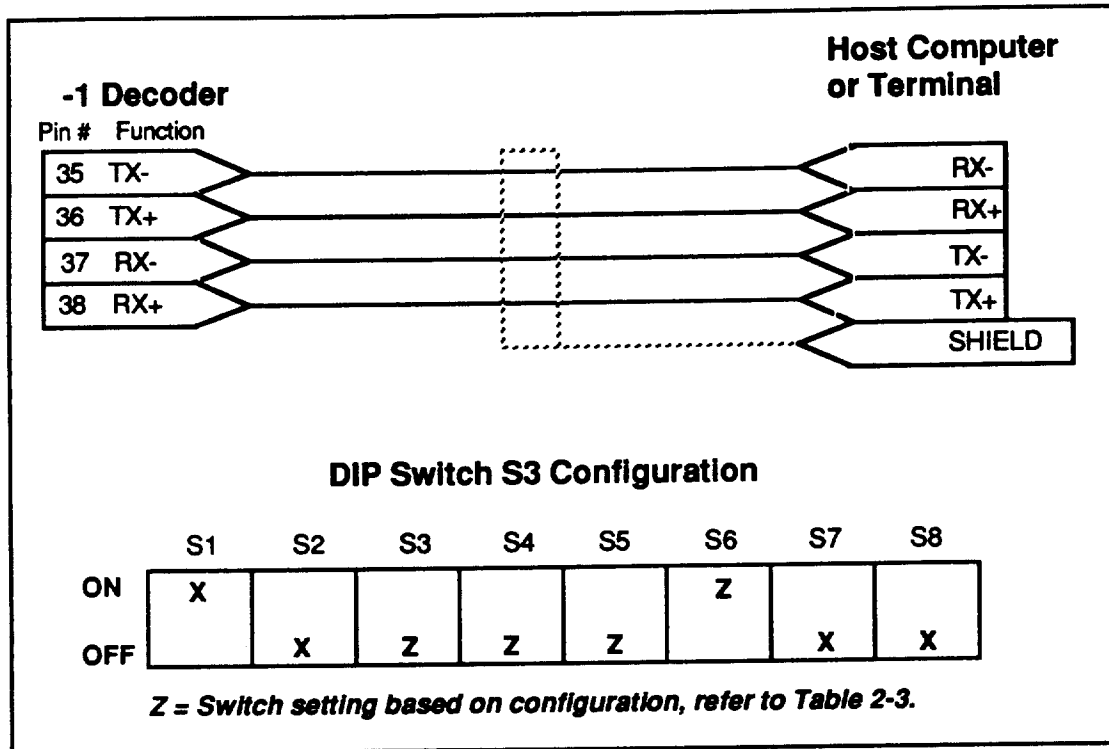

Figure 2-5. RS-422/485 Full-Duplex Serial Communication (-1 Decoder)
This interface communicates serially (with ASCII characters—only upper case characters are valid). The 4-wire interconnect and proper DIP Switch settings are shown in Figure 2-5.
You should be aware of the following information if you use the configuration setting shown in Figure 2-5.
1. Be sure that power is not applied to the system. Remove the cover from the AR23 decoder and set the DIP switches (refer to Figure 2-5). If you are using only one unit with this interface, leave the jumpers at their factory default settings. You will have to change all of the other units' jumper settings. Put the cover back on the unit before proceeding.
2. Connect the interface from the decoder box to the computer/terminal using the instructions shown in Figure 2-5.